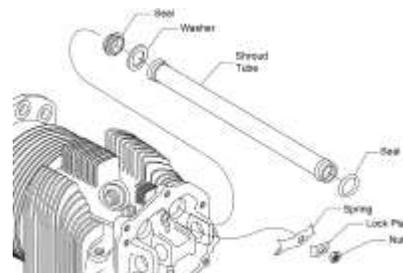
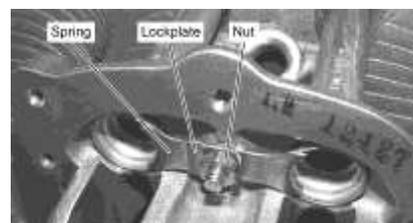

Figure 31
Figure 32
- (4) On each shroud tube, assemble the other shroud tube seal over the outer end of the shroud tube (Figure 31).
- (5) Insert each shroud tube through the hole in the rocker box and seat the end firmly into the crankcase.
- (6) Install the shroud tube spring, new lockplate, and nut (Figure 32). Torque the nut to 96 in.-lb. (11 Nm).